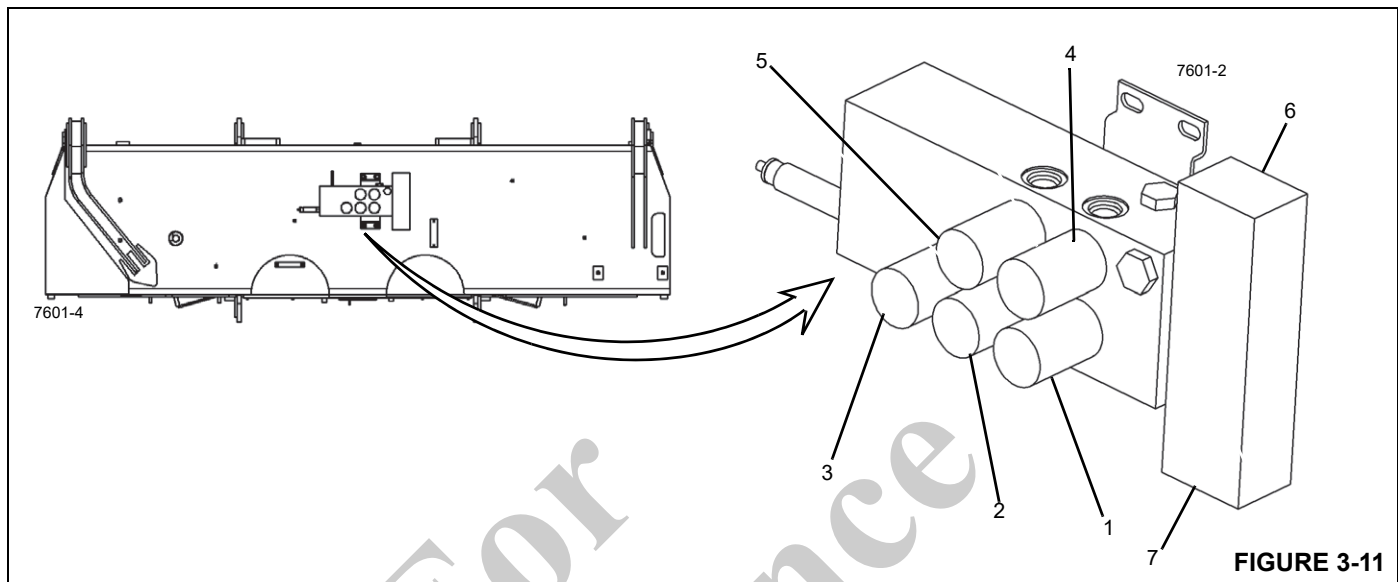

FIGURE 3-11
of the front outrigger box (Figure 3-11), and the rear outrigger manifold is mounted at the center of the rear of the truck under the T-box (Figure 3-12).
- The SFO (Figure 3-11) solenoid extends or retracts the SFO when energized. Anytime the retract switch on the outrigger control is depressed, the SFO is first up.
- The component solenoids (2 through 5) control the front outrigger components. See Figure 3-11 for solenoid identification.
- The extend (6) and retract (7) solenoids control the extend and retract functions for all outrigger components on both front and rear outriggers.